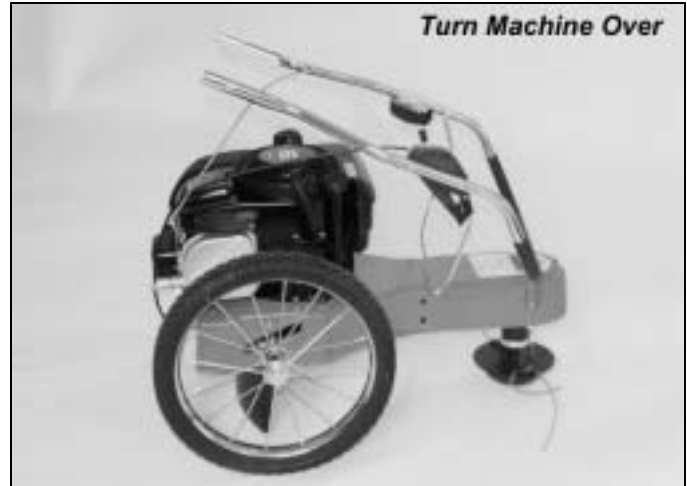

Figure 8
3. Bring the upper handlebar section up and over the front end of the machine. Let it rest there (Figure 8).